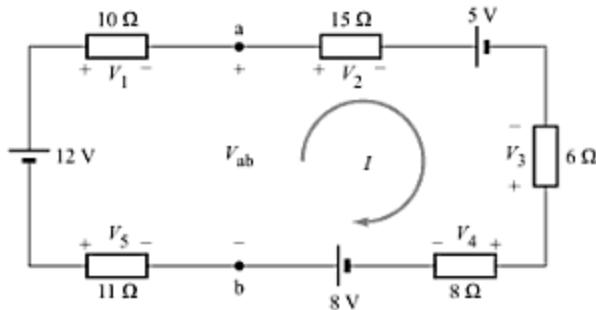

Fig. A-61
- A-13. Find the current and unknown voltages in the circuit shown in Fig. A-61.
- A-14. Find the voltage V_{ab} in the circuit shown in Fig. A-61. [Ans. 5.7 V]